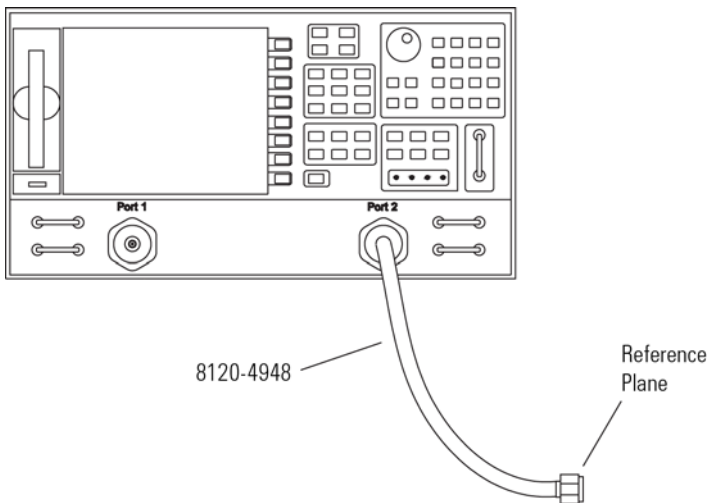

Figure 170 SMA Cable Connected to Port 2
- 13 Connect the other high quality SMA cable to the VNA's **PORT 2** as shown in Figure 170.